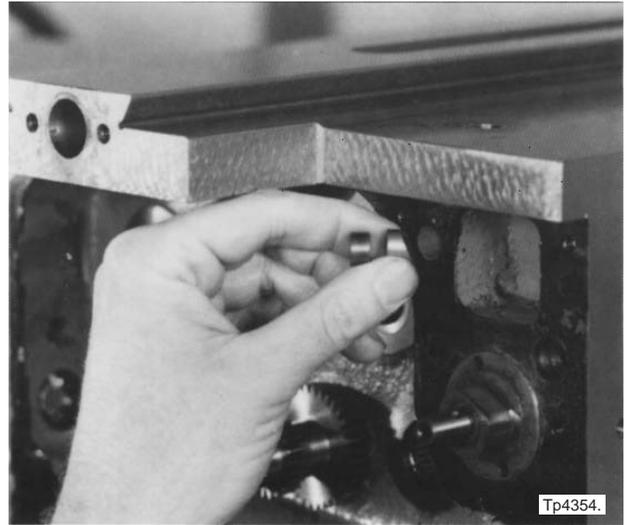

Figure 1.27 - Two Piece Lock Bolt
If it is necessary to remove the two piece lock bolt shown in Figure 1.27, proceed to step 4.
17. Remove the two piece lock bolt, as shown in Figure 1.27 .
1. If removed, replace the two piece lock bolt, as shown in Figure 1.27 .